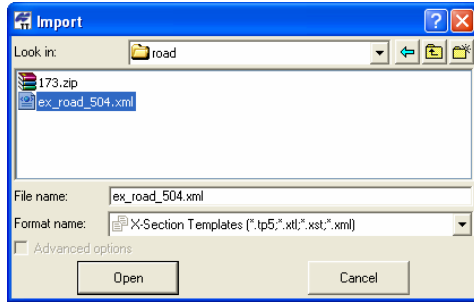

Figure 3-31. Import X-Section Template File
4. Click **Open** to import the file (Figure 3-31).